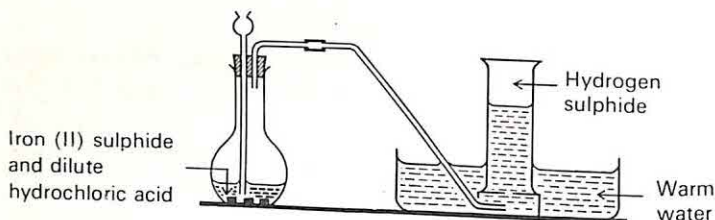

fig. 43 The preparation of hydrogen sulphide
- If only a few gas jars of hydrogen sulphide are required, it may be prepared using the apparatus shown in fig. 43. It is collected over warm water as it is quite soluble in cold water.